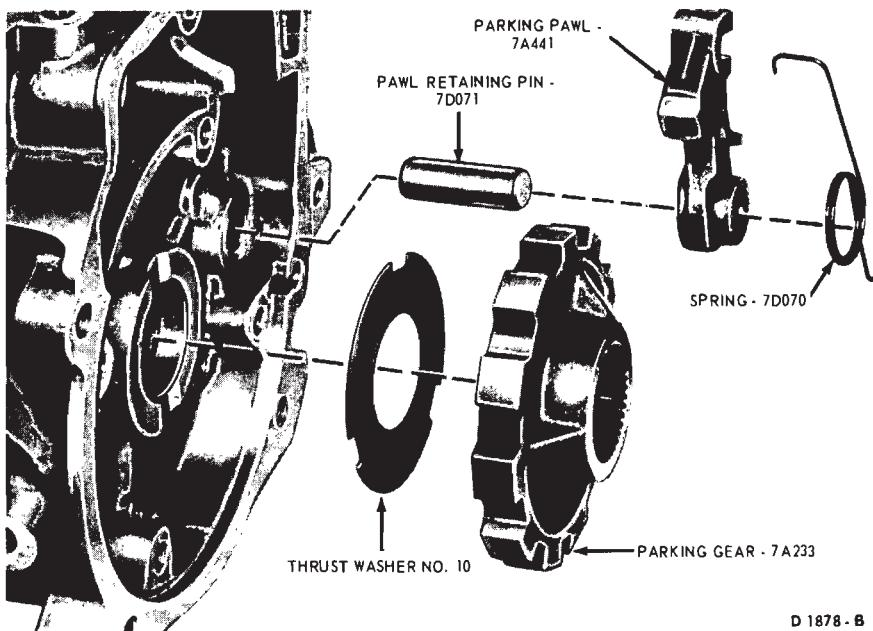

FIG. 46—Parking Pawl, Return Spring Retaining Pin and Gear
25. Remove the parking pawl return spring, pawl, and pawl retaining pin from the case (Fig. 46).